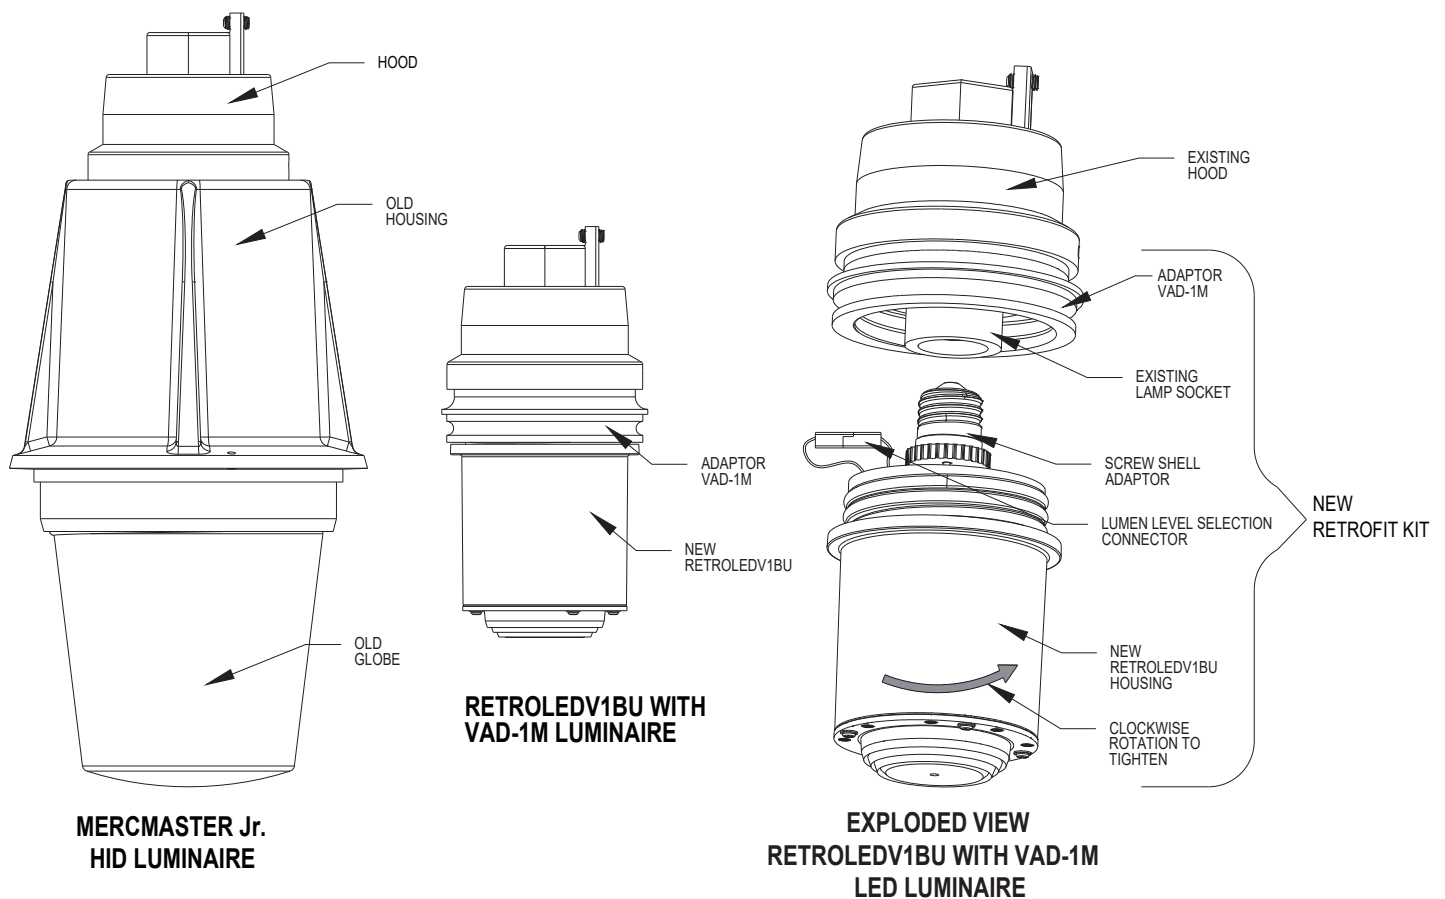

FIGURE 11: MERCMASTER Jr. HID LUMINAIRE AS RETROLEDV1BU WITH VAD-1M LED LUMINAIRE
2. Remove the old globe, guard, reflector, and incandescent bulb, old housing and dispose/recycle in accordance with local requirements. [See Figure 11– Mercmaster Jr. HID luminaire as RETROLEDV1BU WITH VAD-1M Luminaire]
7. Thread the screw shell adapter into the socket now available via the VAD-1M (for use with RETROLEDV1BU) or the VAD-2M (for use with RETROLEDV5BU). [See Figure 11 – Mercmaster Jr. HID to Retromaster]
9. Engage all threads of Retromaster into the existing hood/adaptor, until it seats fully on the existing gasket. [See Figure 11 – Mercmaster Jr. HID luminaire as RETROLEDV1BU with VAD-1M Luminaire]